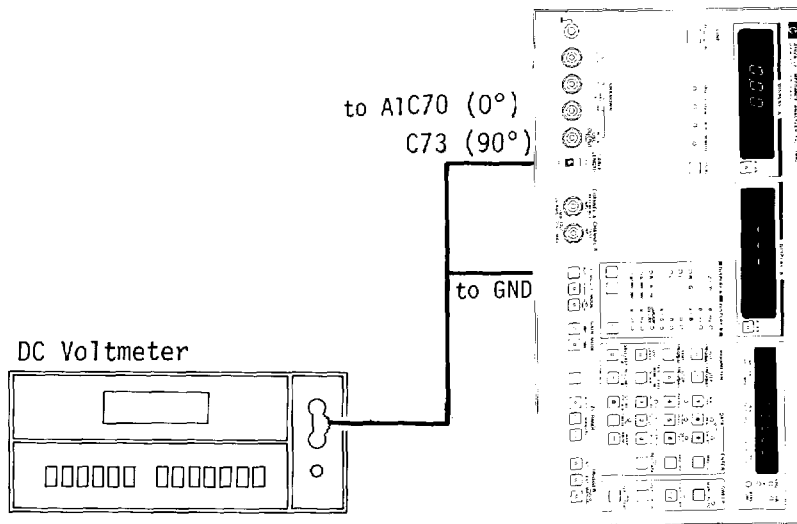

Figure 5-13. A1 Null Detector DC Offset Adjustment Setup.
- d. Connect the dual banana plug-to-alligator clip cable to the 3465A; connect the high lead to the one lead (0°) of A1C70 and the low lead to the chassis as shown in Figure 5-13;